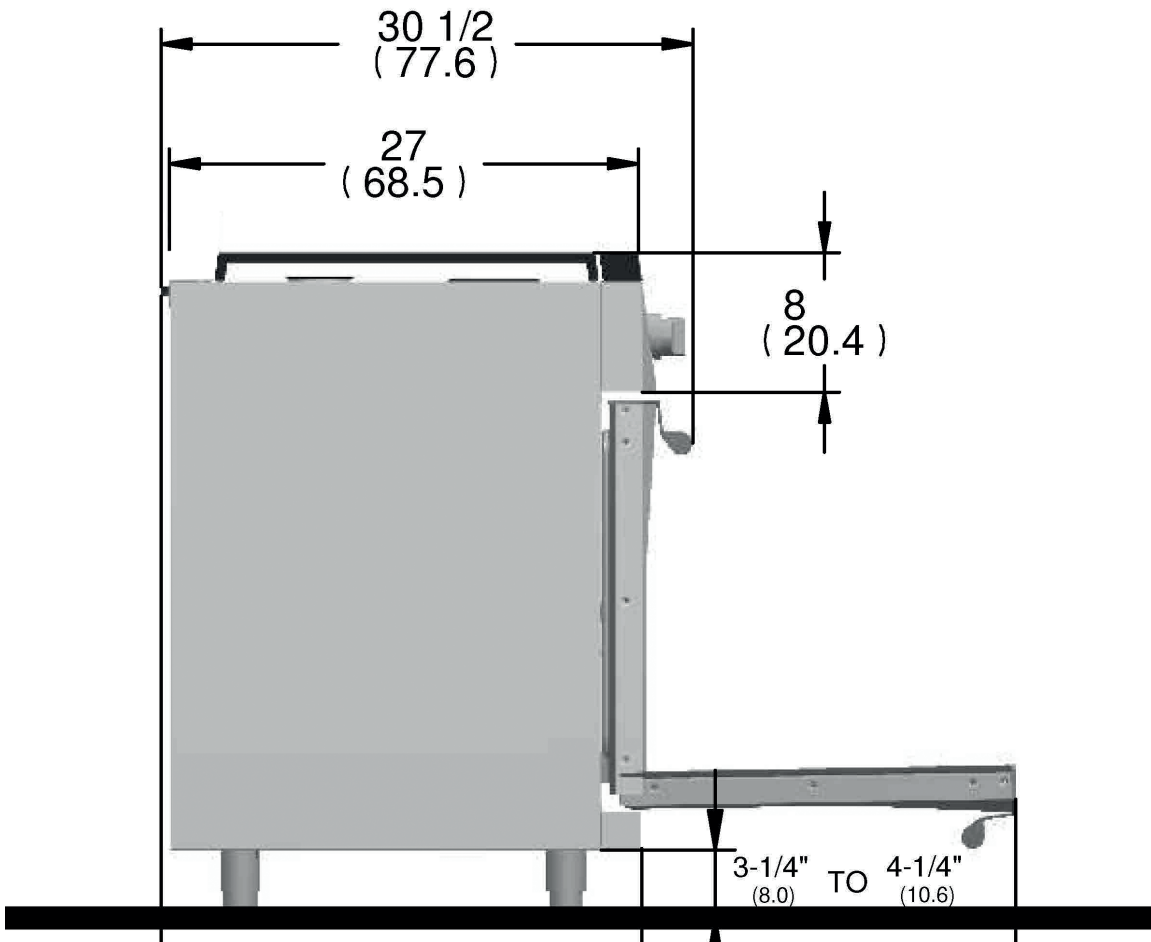

Figure 2
- When using the island hood a minimum 12" (305 mm) rear clearance to a combustible surface is recommended (see Figure 2 on page 10, Cabinet Clearances). Clearances from non-combustible materials are not part of the ANSI Z21.1 scope. Clearances of less than 12" (305 mm) must be approved by the local codes and/or by the local authority having jurisdiction.